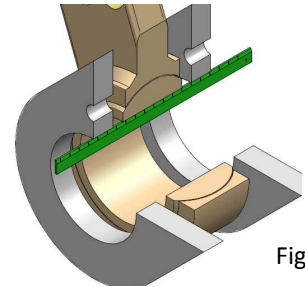

Fig. 1
- 1.2 Align the bolt hole. Use a *ruler* all around inn the hole to be sure the centre link and both support are on line (see Fig.1).